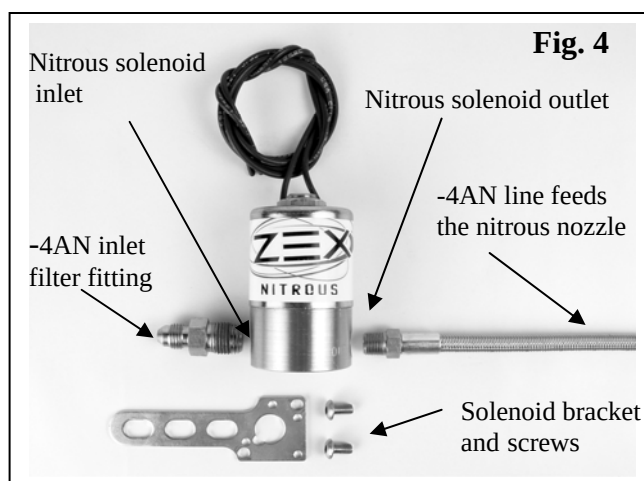

Fig. 4
4. Mount Nitrous Solenoid - Keeping in mind the length restrictions of the nitrous nozzle feed line and nitrous delivery line, mount the nitrous solenoid in the engine bay by using the supplied bracket and screws (Fig. 4).
- Install the 1/8 NPT end of the 2ft. -4 nozzle feed line into the nitrous solenoid outlet (Fig. 4). Install the nitrous jet in the nozzle for the desired power level and attach the -3 AN swivel nut side of the nozzle feed line to the nozzle. **Remember, a nitrous jet's power rating is the maximum amount of additional power it can support, but this power level will only be achieved through additional fuel tuning.**